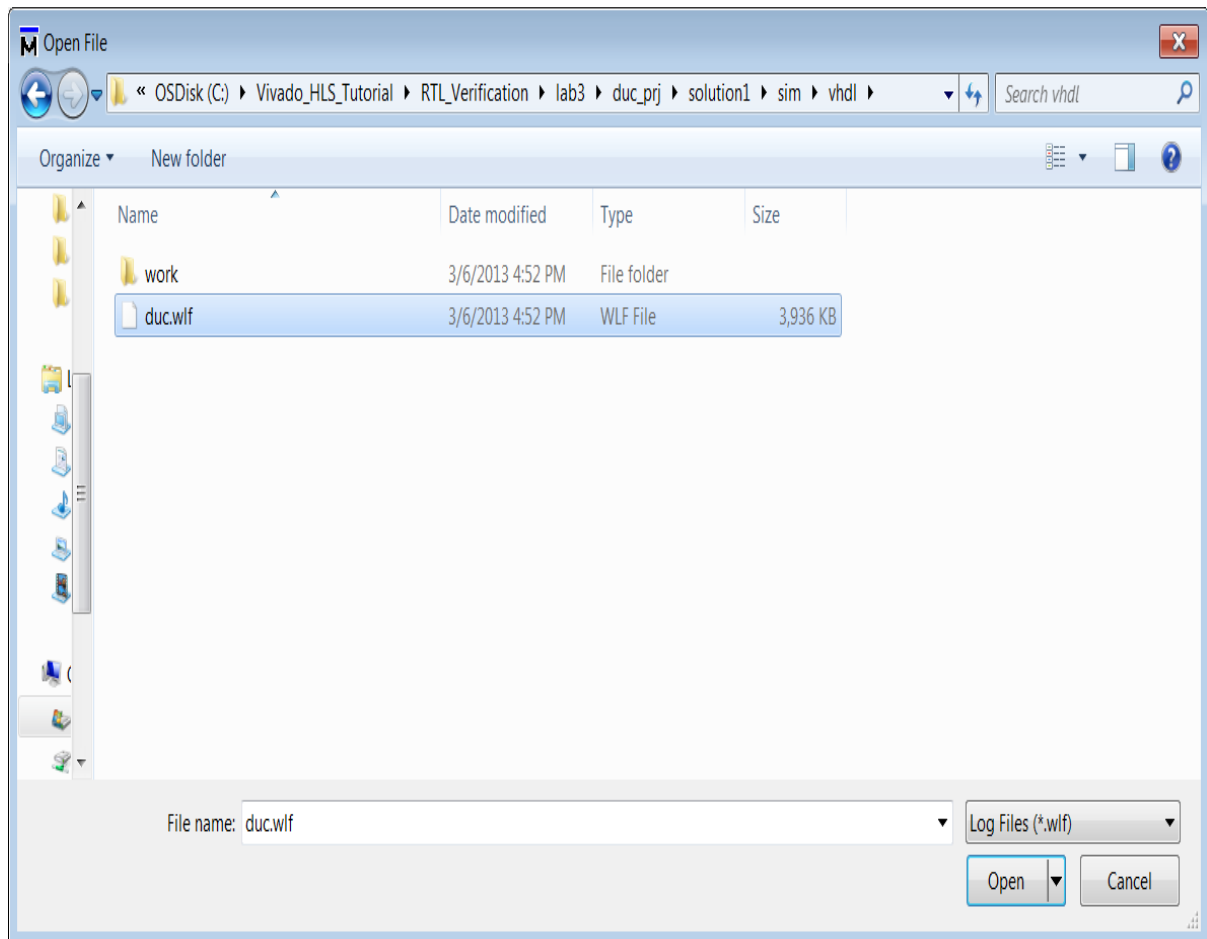

Figure 8-17: ModelSim Open File WLF
3. Select **Log Files** as the file type (Figure 8-17).